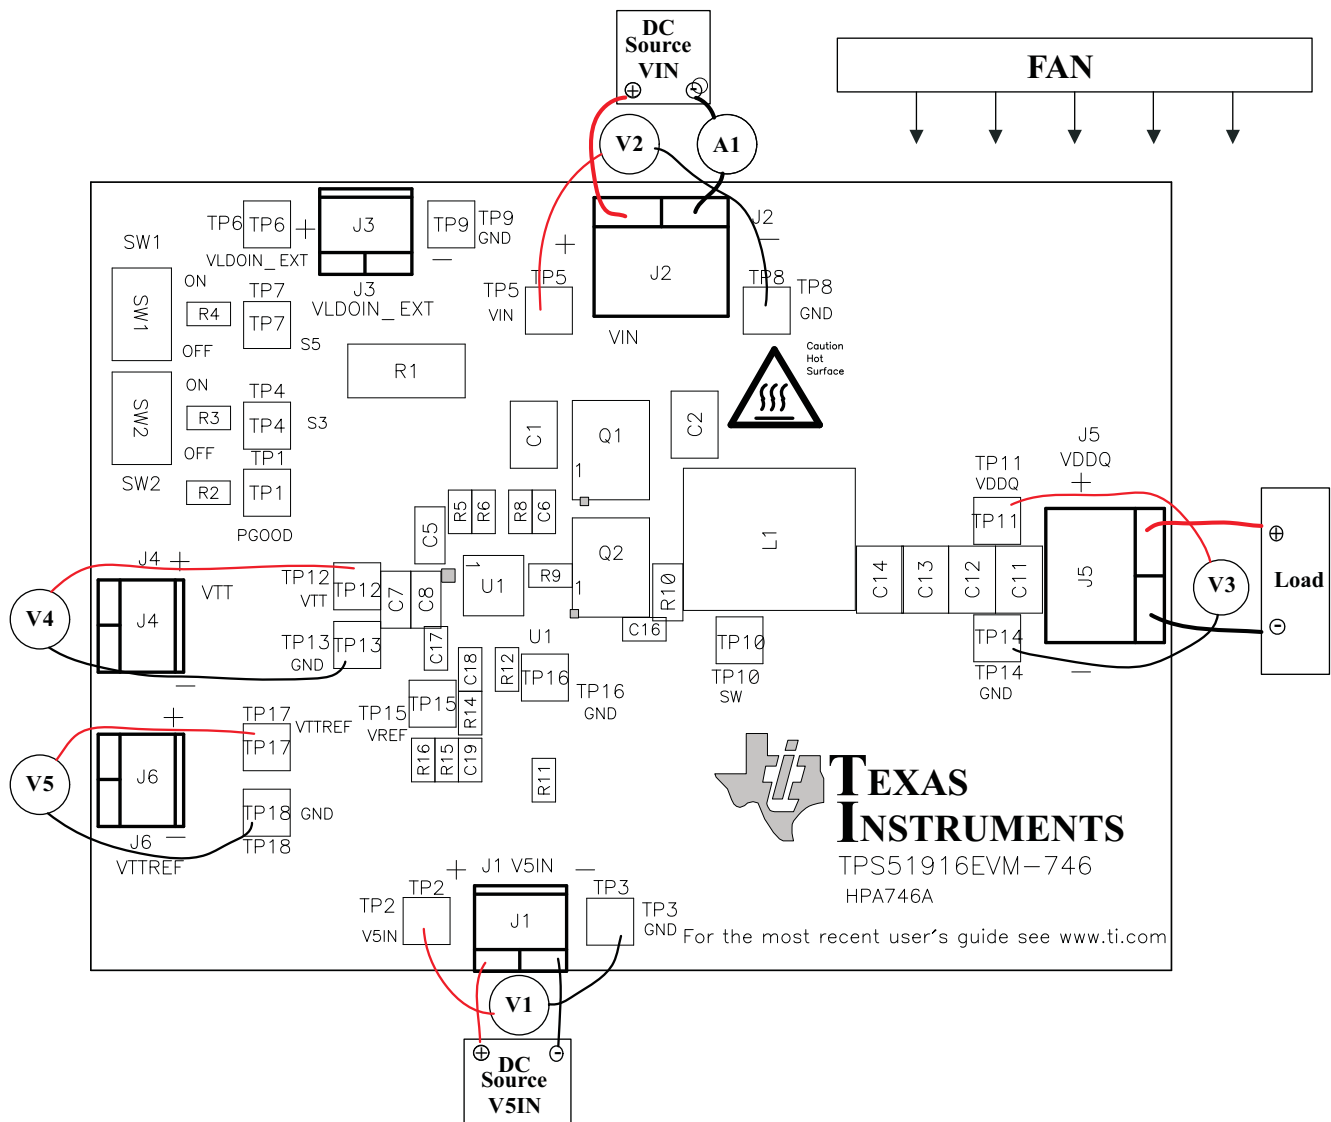

Figure 3. TPS51916EVM-746 Recommended Test Setup
**Voltage Source V5IN:** The input voltage source V5IN must be a 0-V to 5-V variable dc source capable of supplying 1 Adc. Connect V5IN to J1 as shown in Figure 3.
**Voltage Source VIN:** The input voltage source VIN must be a 0-V to 20-V variable dc source capable of supplying 10 Adc. Connect VIN to J2 as shown in Figure 3.
Figure 3 is the recommended test setup to evaluate the TPS51916EVM-746. When working at an ESD workstation, ensure that any wrist straps, bootstraps, or mats are connected referencing the user to earth ground before power is applied to the EVM.
1. Prior to connecting the dc source V5IN, it is advisable to limit the source current from V5IN to 1 A maximum. Ensure that V5IN is initially set to 0 V and connected as shown in Figure 3.
2. Prior to connecting the dc source VIN, it is advisable to limit the source current from VIN to 10 A maximum. Ensure that VIN is initially set to 0 V and connected as shown in Figure 3.
3. Connect voltmeters V1 at TP2 (V5IN) and TP3 (GND) to measure V5IN voltage, V2 at TP5 (VIN), and TP8 (GND) to measure VIN voltage as shown in Figure 3.
Place a fan as shown in Figure 3 and turn it on, ensuring that air is flowing across the EVM.
1. Set up EVM as described in Section 4 and Figure 3.